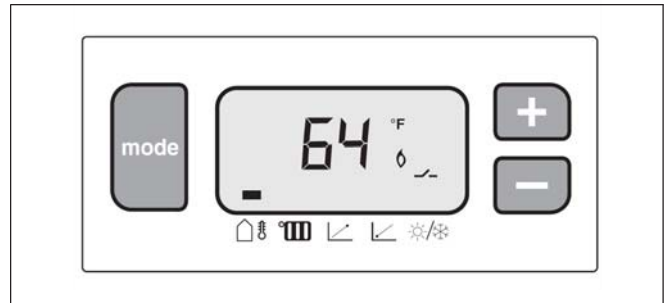

Fig.26 Default display: Current outdoor temperature
- When powering up the AM10 the current outdoor temperature is displayed (Fig. 26).
- Pressing the mode key again will return the display to the current outdoor temperature (Fig. 26).